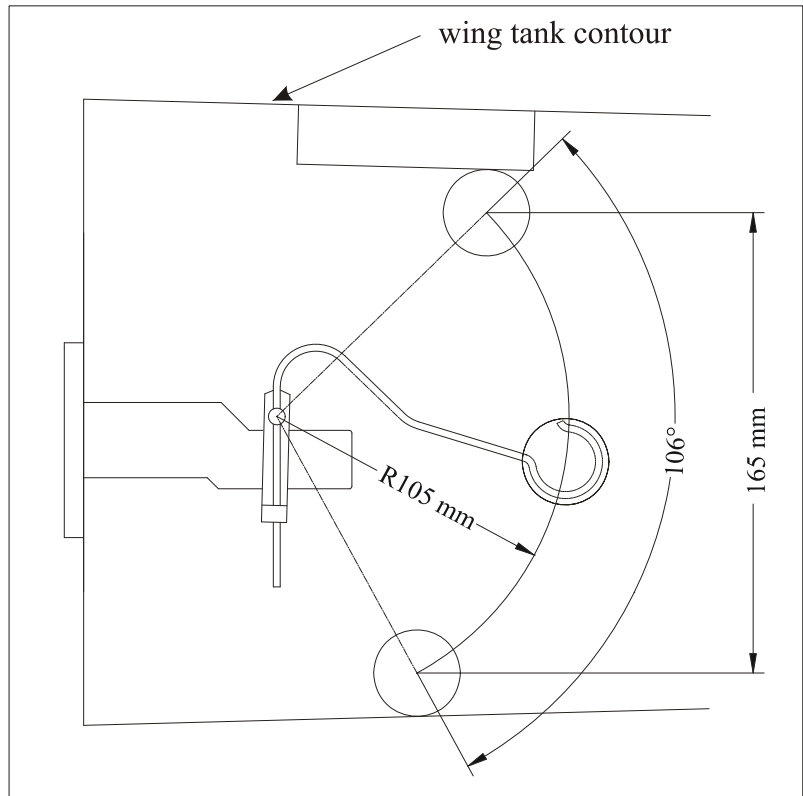

Figure 17 Float Wire Installation
- 3 Reinstall the float wire observing the dimensions shown in Figure 17, pay attention to a proper alignment and tighten well the attachment bolt.